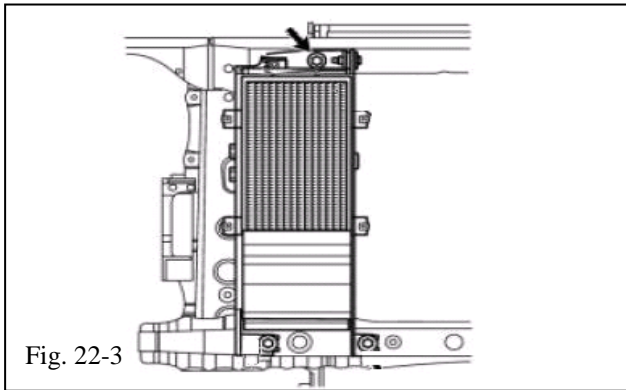
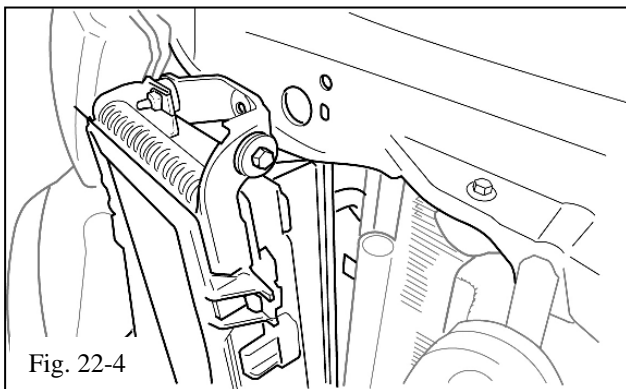

Fig. 22-3
Fig. 22-4
- (g) **Tow package vehicles only:** Unbolt the transmission oil cooler top bolt and let it hang out from the radiator upper cross member (Fig. 22-3 & Fig. 22-4). Leave the fluid lines attached.